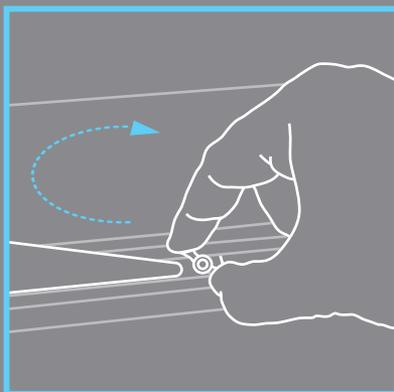

Figure 4.
- Line up the screw with the screw plate and tighten until fully secure (**Figure 4**).